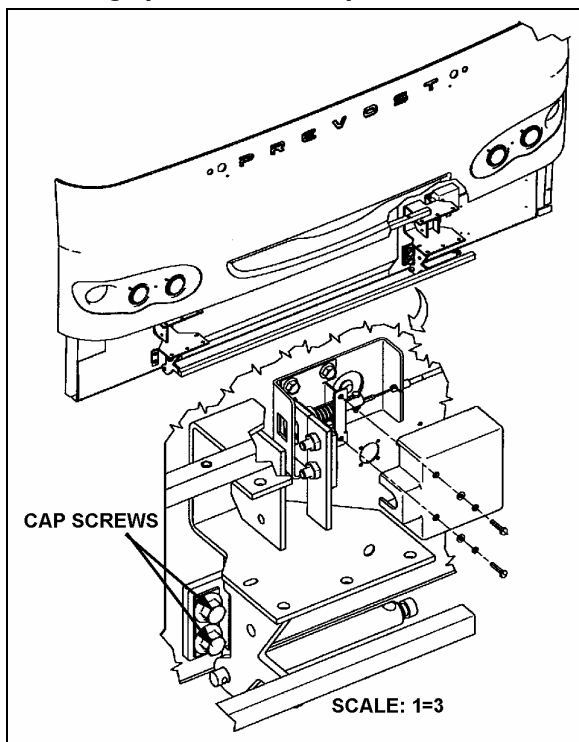

FIGURE 10: FRONT BUMPER ASSEMBLY
2. Remove 4 cap screws holding bumper to vehicle and remove bumper (Fig. 10).